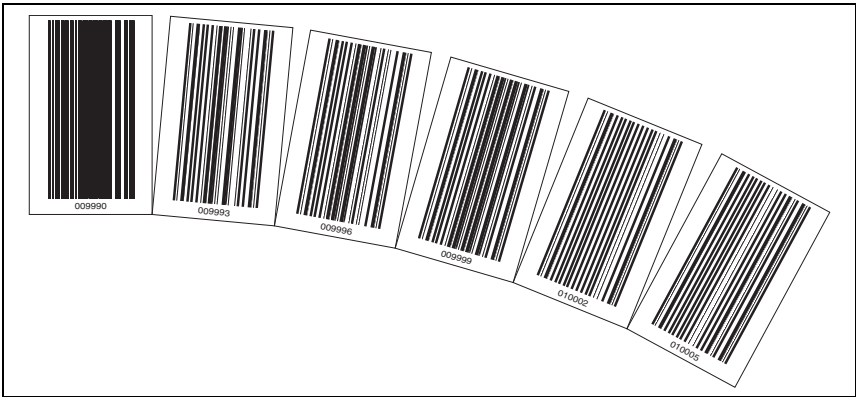

Figure 6.4:Partial cutting of the bar code tape in curves
*When working with BCB in curves, the BCB should only be partially cut at the cut mark and affixed along the curve like a fan; it must also be ensured that the BCB is affixed without tension (see Figure 6.4).*